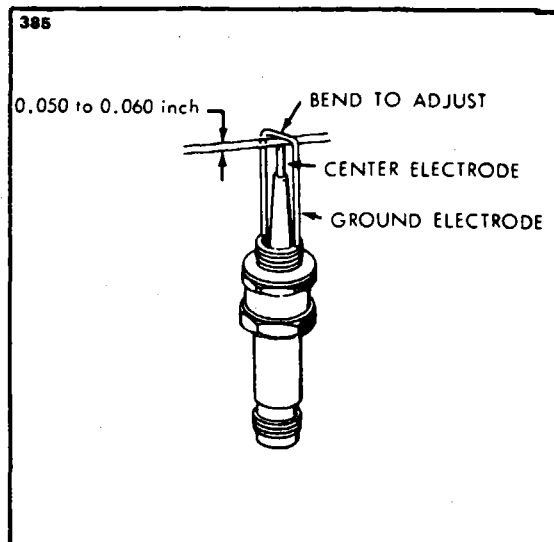

Figure 13-28. Spark Plug Gap Adjustment
c. Installation: (Refer to Figure 13-28.)